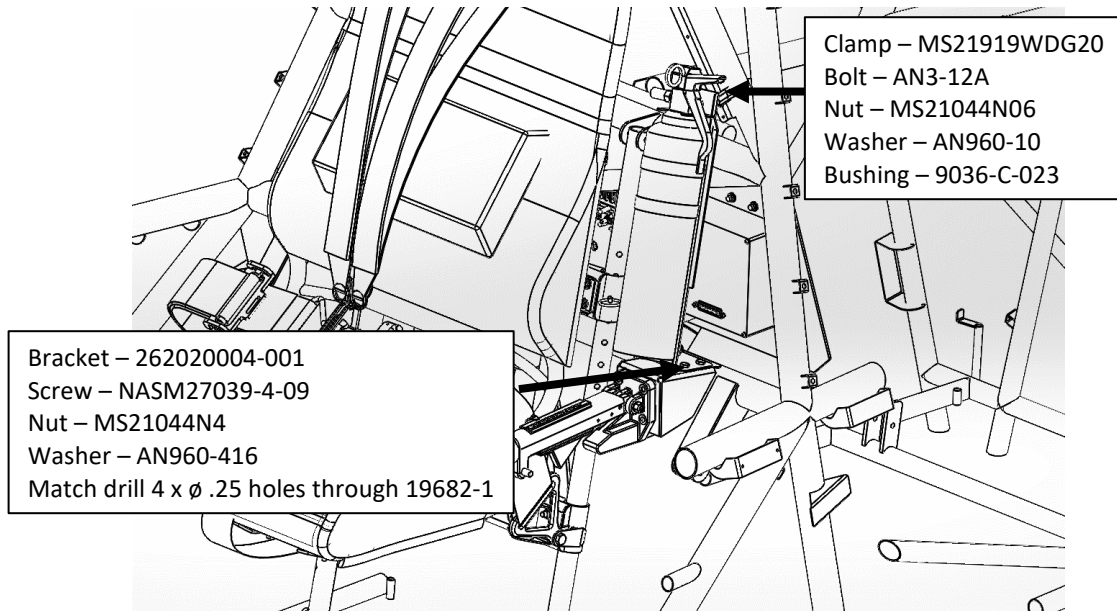

Figure 3-1: View of installed fire extinguisher – Dual Cockpit
3.4. Install 26202006-001 on 21611 per Figure 3-1.